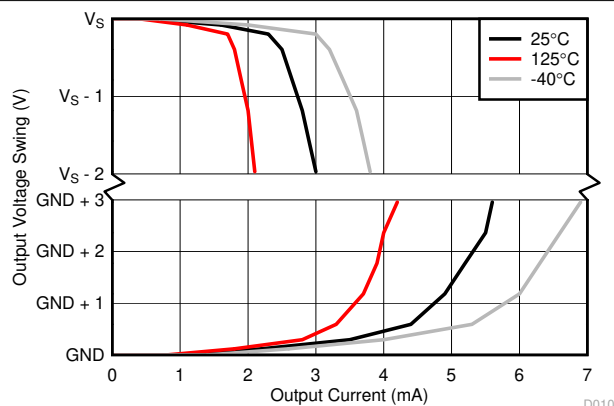

Figure 7-13. Output Voltage Swing vs Output Current
(1) See the Input Signal Bandwidth section for more details.
(2) See Figure 7-13.